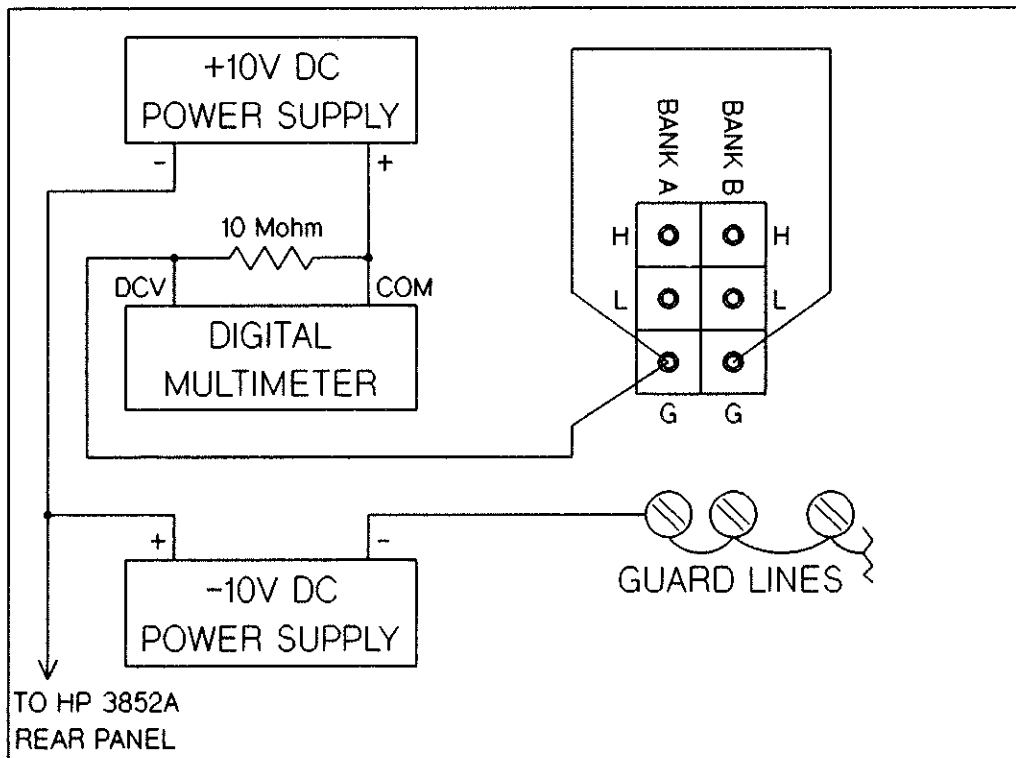

Figure 9-20 HP 44709A/44710A Open GUARD Channel Test-Setup
14. Refer to Figure 9-20. Connect the negative power supply's negative lead to the shorted GUARD lines on the test fixture. Connect the negative power supply common lead to the chassis.
17. Calculate the leakage current (I) from the formula: